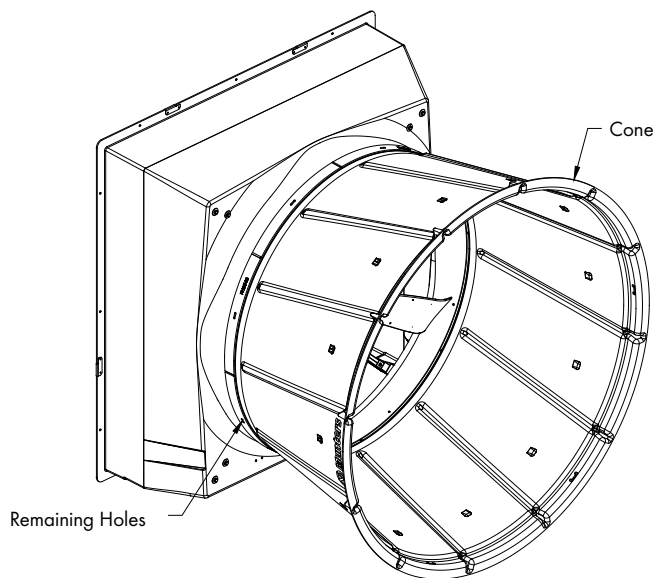

Figure 6
Work down the sides of the cone, sliding the cone tabs onto the fan until the bottom tab is in place. Keep pressure on the cone to make sure tabs stay on the fan. Install (6) Truss Head Bolts [B], Washers [C] and Flange Nuts [D] in the remaining holes in the fan outlet and slots in the cone to finish securing cone to fan. See Figure 5B and Figure 6. Tighten all nuts at this time, making sure not to over tighten.